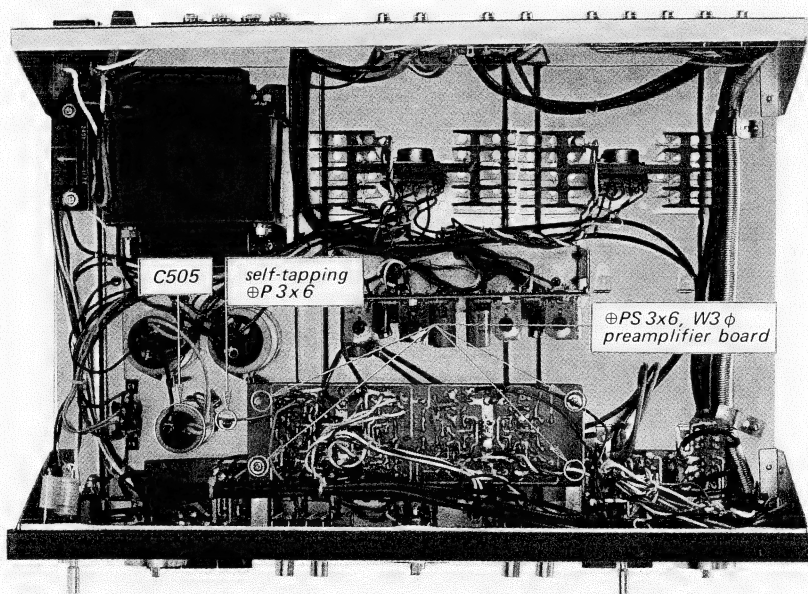

Fig. 2-6 C505 removal and preamplifier removal
3. Remove the self-tapping screw (\oplus P 3 \times 6) securing electrolytic capacitor C505 (Fig. 2-6) to the bottom plate, if necessary, then remove the capacitor.
1. Remove the preamplifier board by loosening the four screws (\oplus PS 3 \times 6) securing it to its mounting bracket. See Fig. 2-6.